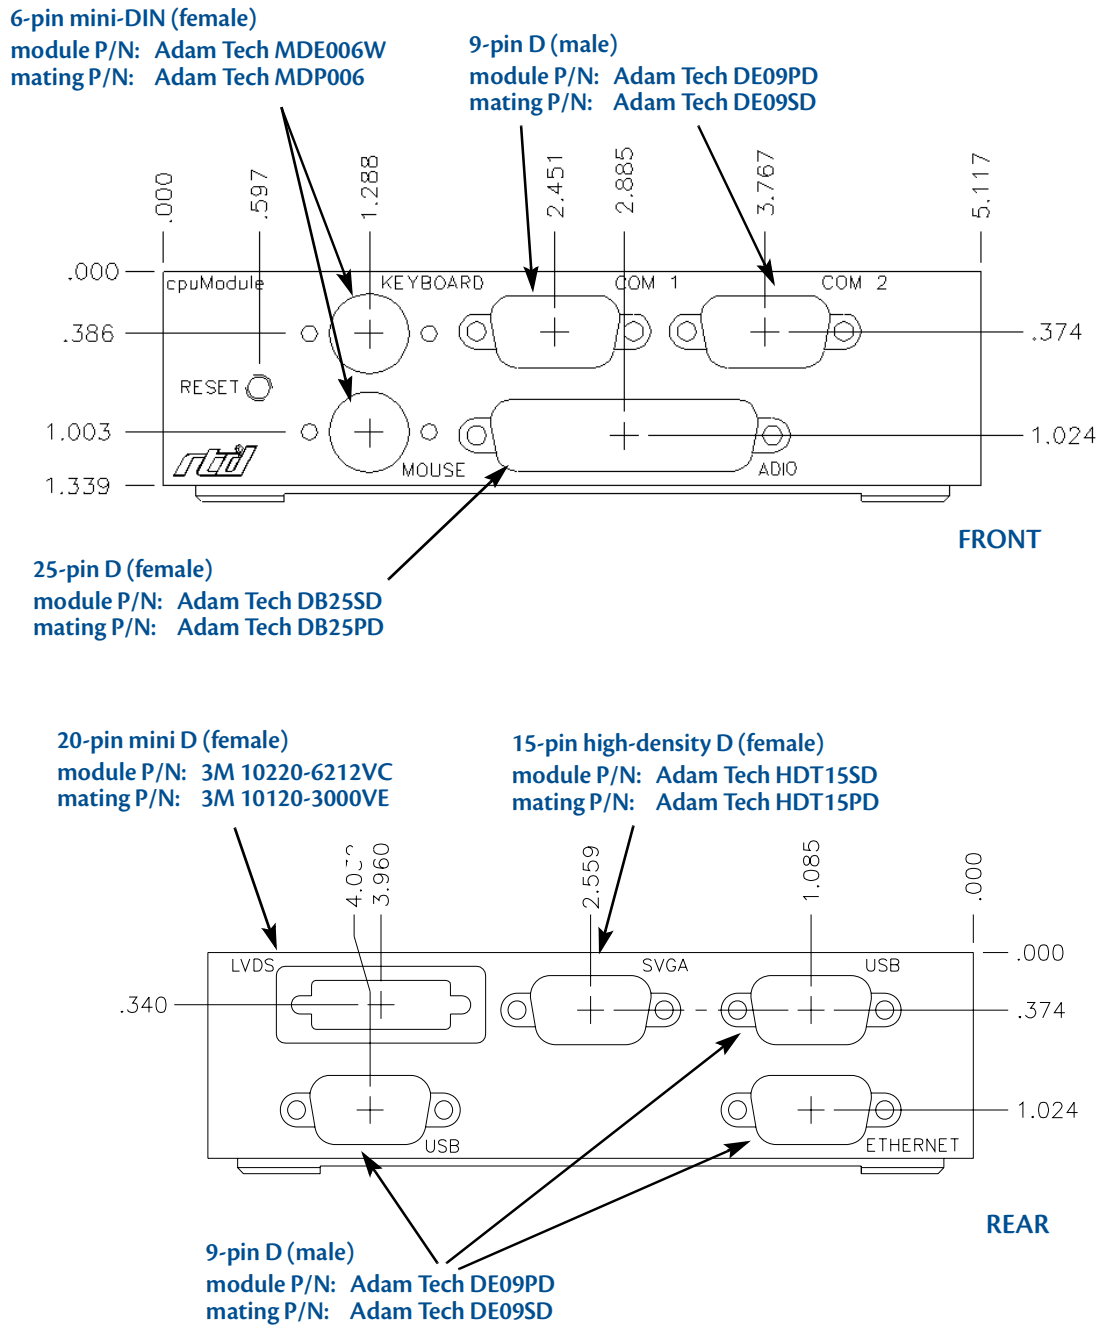

Figure 9 IDAN-CMA157886 Connectors¹
1. Heatsink fins (not shown in Figure 9) extend 0.75 inches from the sides of the IDAN frame.